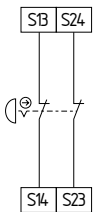

Fig. 5
**Dual-channel emergency stop circuit with command devices to DIN EN ISO 13850 (EN 418) and EN 60947-5-5 (Fig. 5)**